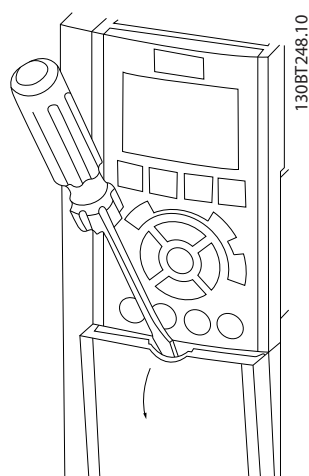

Figure 2.13 Control Wiring Access for A2, A3, B3, B4, C3 and C4 Enclosures
- Remove access coverplate with a screwdriver. See *Figure 2.13*.